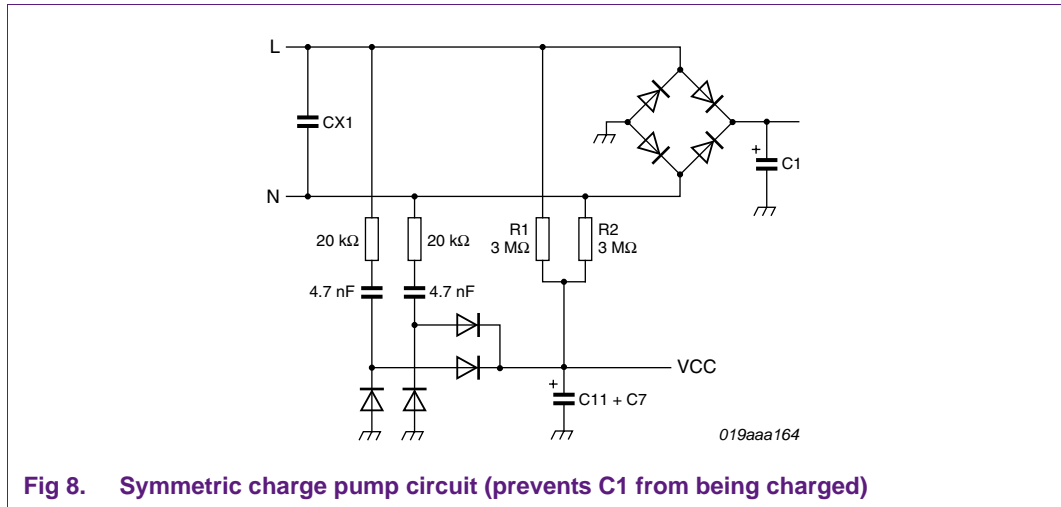

Fig 8. Symmetric charge pump circuit (prevents C1 from being charged)
- Another solution is to add an identical charge pump but connect its input to N instead of L (see Figure 8). In this case the value of C_{pump} can be divided by two.